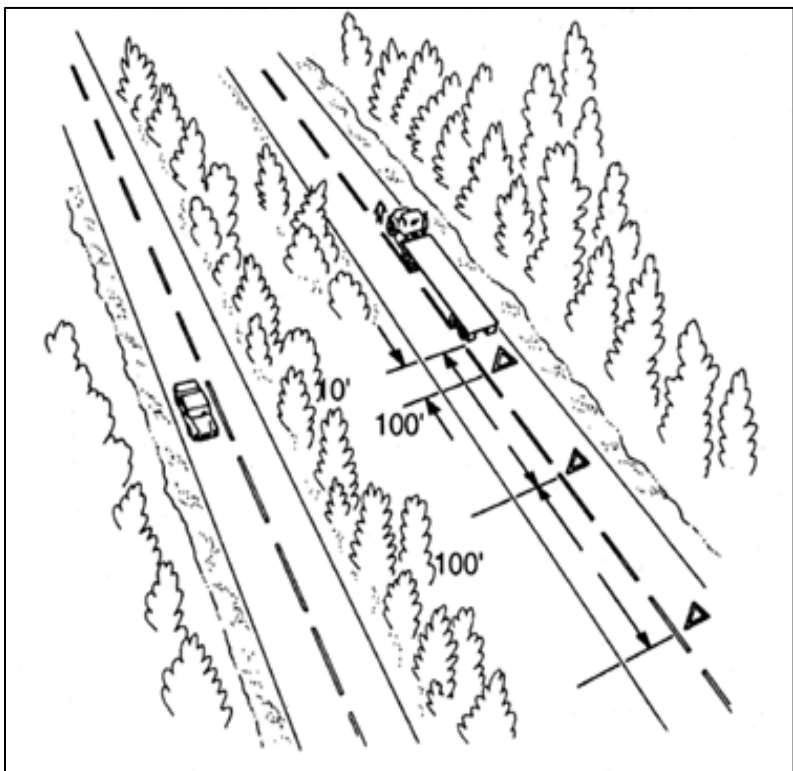

Figure 1-3
- If you must stop on or by a one-way divided highway, place warning devices 10 feet, 100 feet, and 200 feet toward the approaching traffic. (Fig. 1-3)